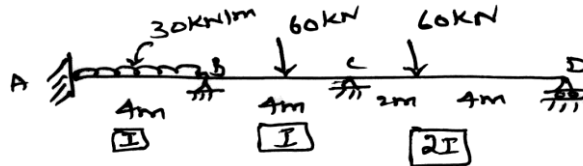

Fig Q1
- 1 Analyse the continuous beam ABCD shown in Fig Q1 by slope deflection method and draw SFD and BMD.